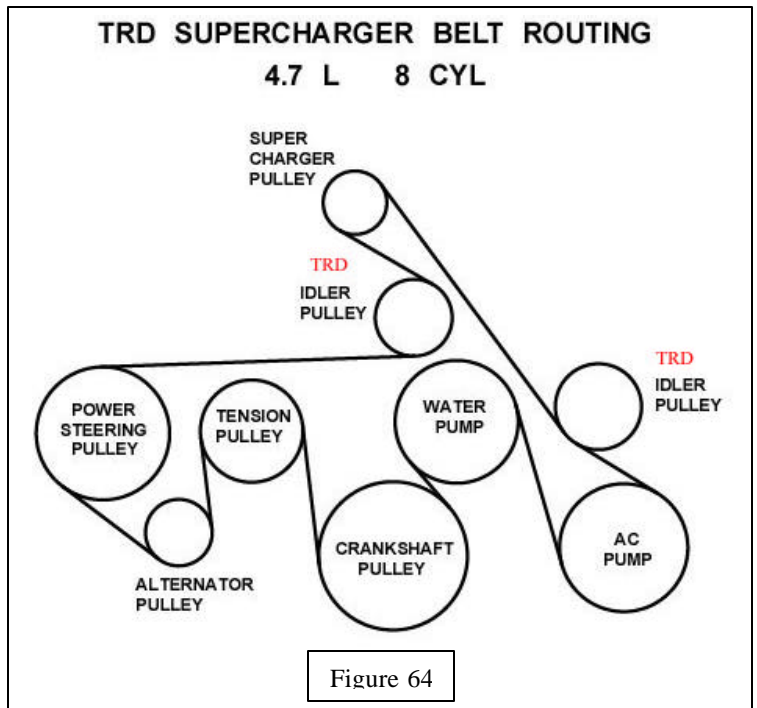

Figure 64
42. Install TRD-supplied drive belt. Use the belt routing shown in Figure 64. Tundra trucks use a 2700mm long, 6-rib belt. Sequoia, Land Cruiser and LX470 use a 2630mm long, 6-rib belt.
44. Select two additional locations under the vehicle hood to mount both the supplied CARB Executive Order (EO) emissions compliance sticker, and the TRD tune-up sticker. The TRD tune-up sticker specifies the recommended components for use with the 4.7 V-8 supercharger system. Clean both areas first of any dirt or contamination.